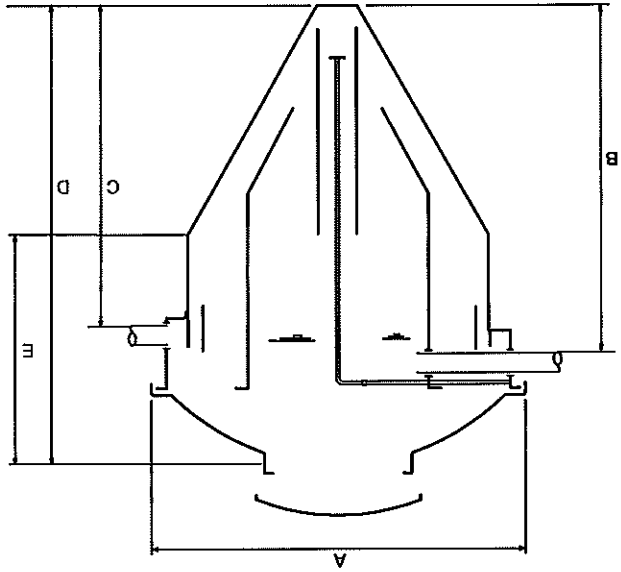

Fig. 1.3
1.60 EXCAVATION (Refer to Fig. 1.3)
1.61 Determine the required depth of the excavation based upon the elevation of the invert of the inlet sewer line (B) or the elevation of the finished grade (D). These dimensions are given for each model in Figure 1.3. **NOTE:** If the distance from the finish grade elevation to the bottom of the excavation exceeds the dimension (D) shown in Figure 1.3, a riser will be required (refer to Section 2.40).
1.62 Excavate a hole approximately two (2) feet wider than the diameter (A) of the plant as specified in Fig. 1.3. The hole should be dug to the depth where the side of the tank begins to taper (E). **NOTE:** If a riser will be required (refer to Section 1.61), then the hole should be dug to the additional depth to allow for the riser.
1.63 To complete the excavation, dig a single trench, approximately 3' wide in the center of the excavation. The trench should be dug to the depth at which the bottom of the tank will rest as indicated in column D of Fig. 1.3. To allow for the tapered sides, the trench should be gradually widened from approximately 3' at the bottom to a width equal to the diameter (A) of the tank (refer to Fig. 2.1).